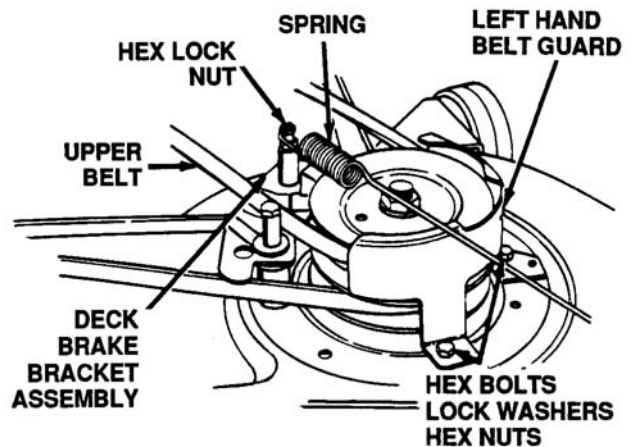

Figure 12-31. Removing Upper Belt From Top Pulley
7. Remove the top hex lock nut from the bolt on the deck brake bracket assembly and remove the spring from the bolt. See Figure 12-31.